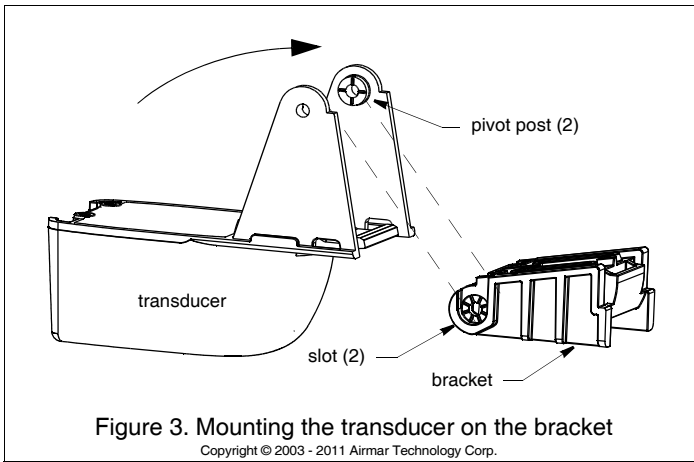

Figure 3. Mounting the transducer on the bracket
1. Insert the transducer's pivot posts into the slots in the back of the bracket (see Figure 3).